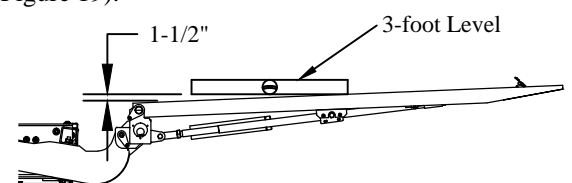

Figure 20: Platform position.
6. **Adjust** the passenger side support arm so that the platform is 1-1/2" from level over a 3-foot length (Figure 20). Adjustment similar to folding cylinder.